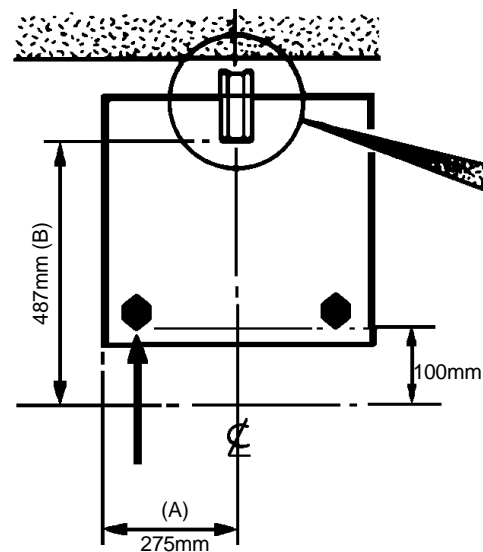
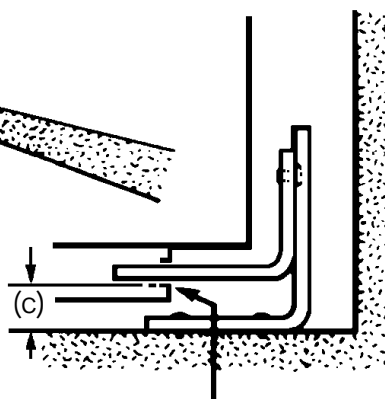

Fig.2a
Fig.2b
2. Mark off 275mm from the left hand side of the appliance as shown in dimension 'A', Fig 2a. This is the centre line of the fixing bracket.
3. Draw a line 100mm from the front edge of the levelling feet (see Fig.2a) and remove appliance from its position. Mark off dimension 'B' (see Fig.2a) back from this line on the centre line of the bracket to locate the front edge of the lower bracket. Fix lower bracket (with two fixing holes) to the floor then measure the height from floor level to engagement edge on back of appliance, dimension 'C' of Fig.2b.